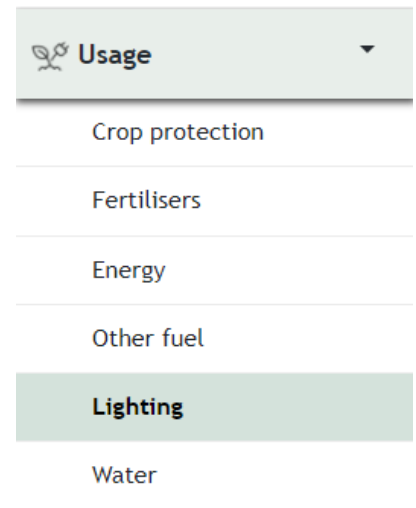

Figure 14
1. Click on 'Usage' in the menu and then on 'Lighting' (see figure 14).